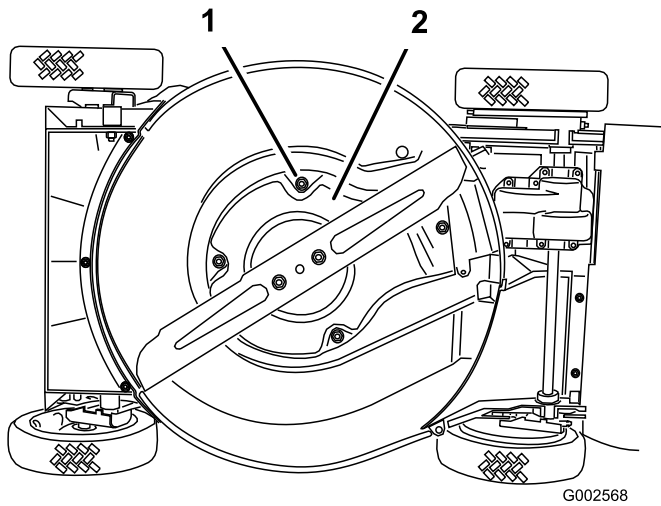

Figure 39
6. Loosen the 4 screws that hold the shield in place (Figure 39).